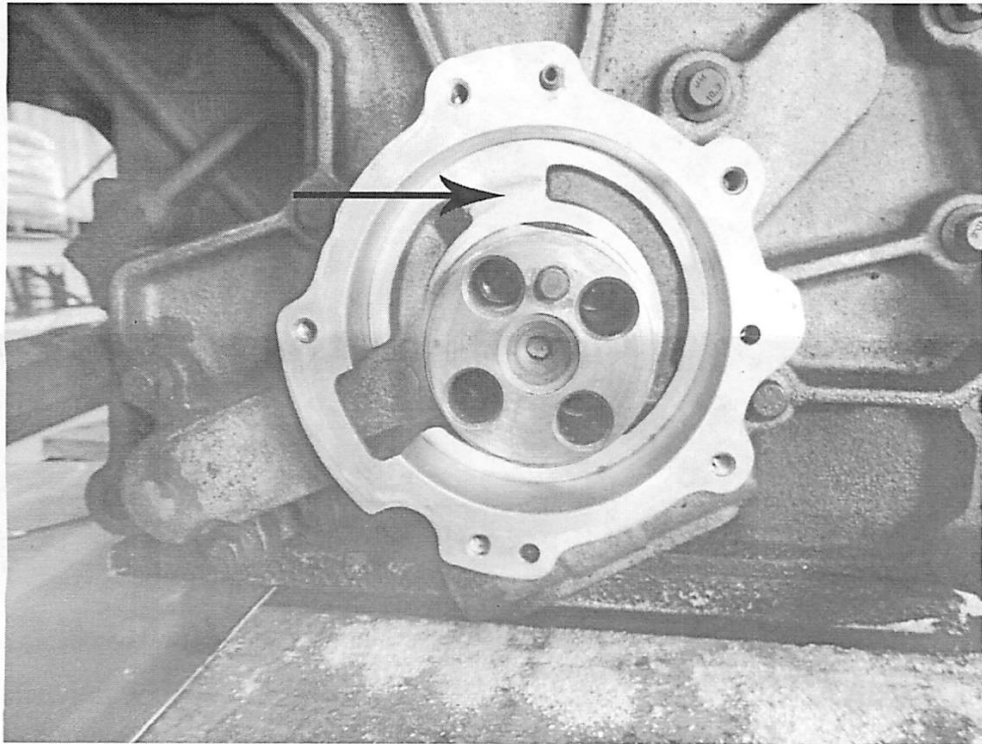

Figure: 1
- 1) Make sure area in **Fig.1** is clean of any debris.